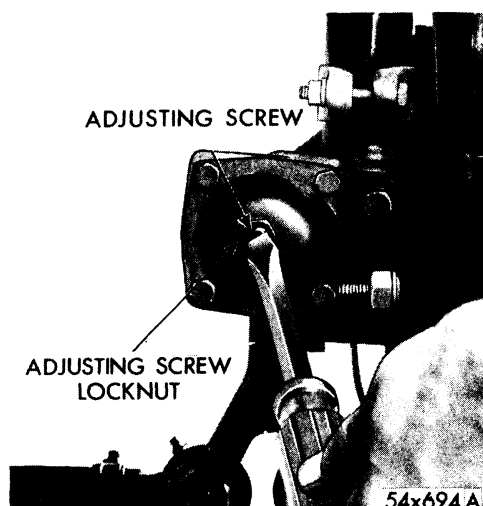

Fig. 4—Steering Gear Adjustments
5. ADJUSTMENT (In Car) (Fig. 4)